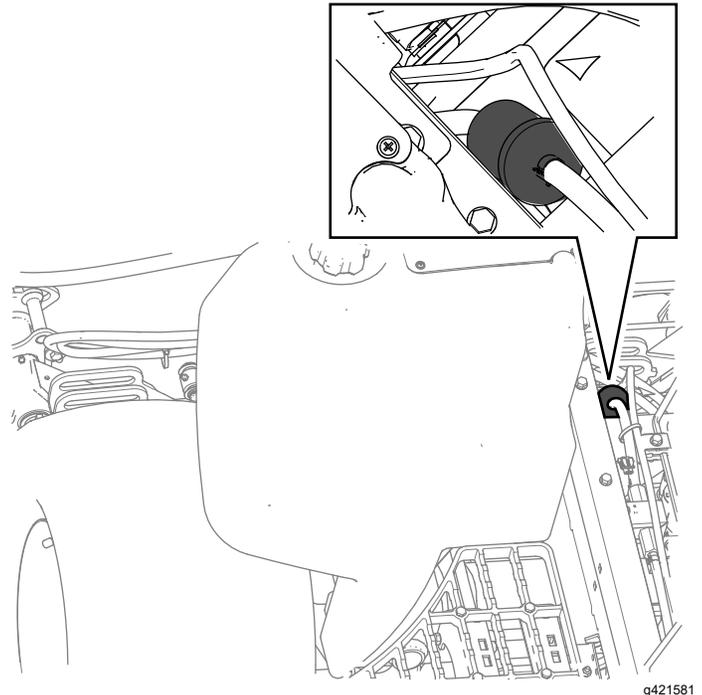

Figure 88
**Note:** Ensure that the filter is orientated as shown in Figure 88.